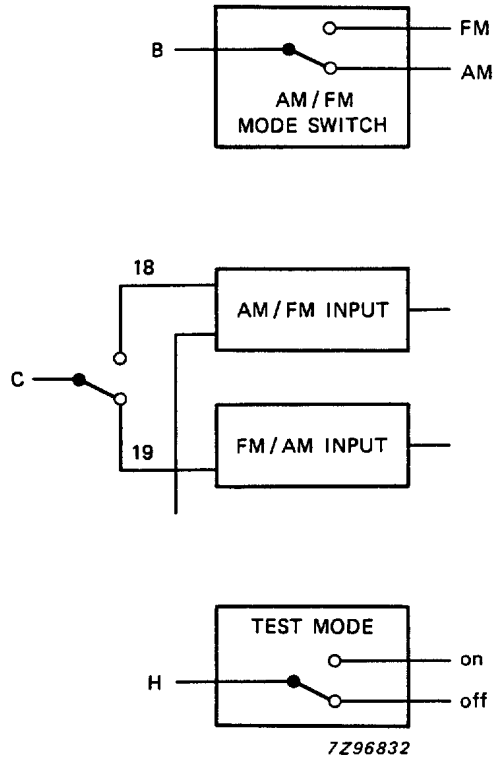

Fig.5 Switch positions, analogue part (switches drawn in logic 0 state).
**Table 3** Possible window settings and counter resolutions with a 40 kHz reference frequency (see Figs 5 and 6)